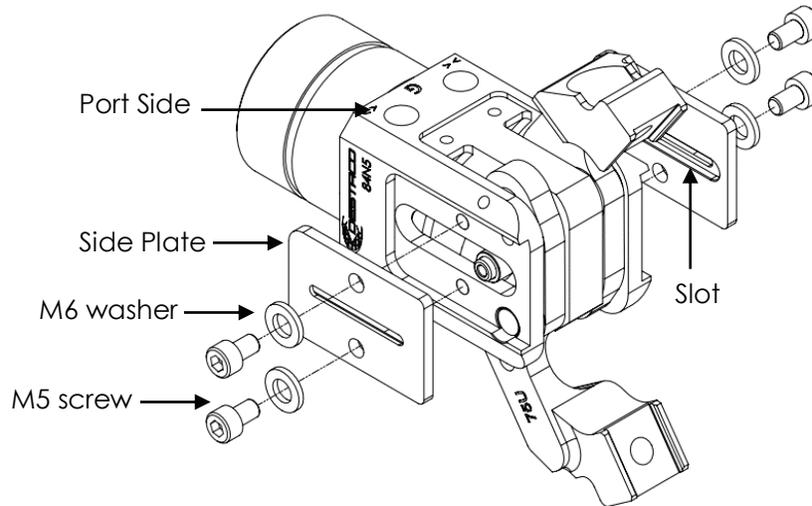

Fig.18
13. Insert the side plate on either side of the gripper body such that the exposed end of the cam pin is in the slot provided in the side plate. Apply the Loctite 242 or equivalent to M5 screw and tighten it using 4mm Allen key to 6Nm (see Fig.18).